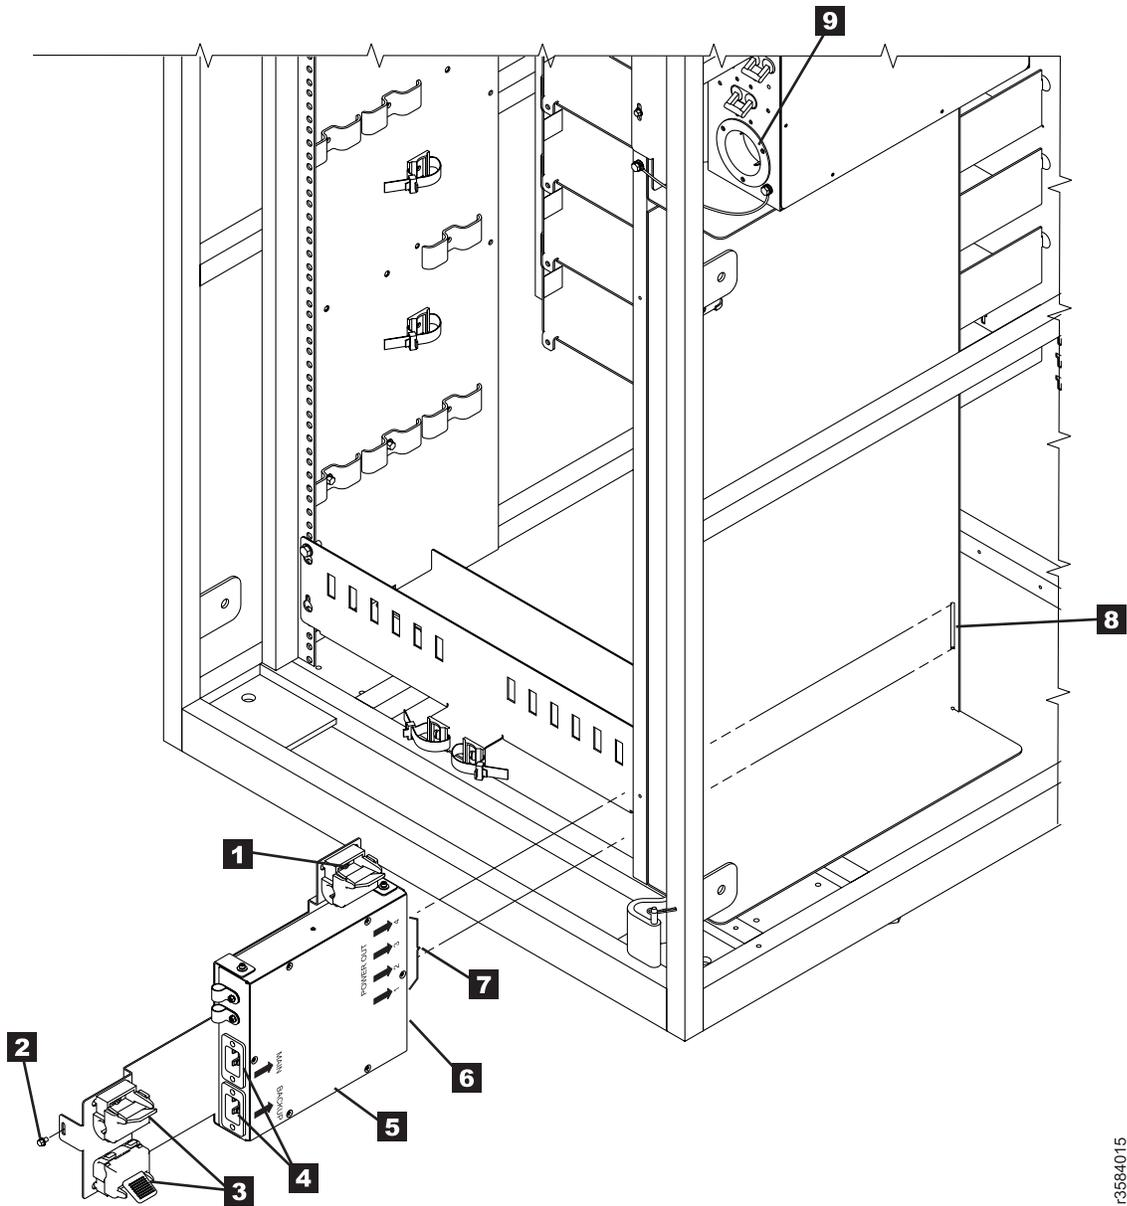

Figure 132. Power Distribution Unit
1. If your library has only one FCA, then the entire library must be powered off (O). If your library has more than one FCA, ask the customer to use the host application to unload cartridges from the drives, then vary offline the drives and accessor in the failing FCA.
3. Power off (O) the FCA main circuit protector.
4. Power off (O) the FCA at the customer power source. With FC 1901 installed (Dual AC Line Cords), power off **both** of the customer’s power sources before proceeding.
5. See Figure 132 on page 621.